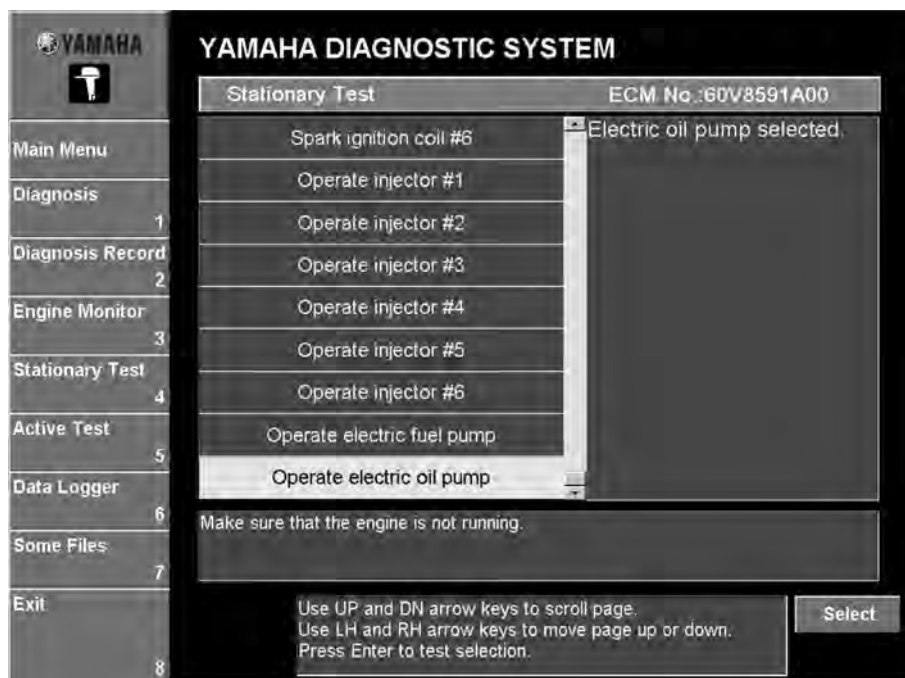

Fig. 79
1. Select the test to be performed, and then click the **Select** button or press the Enter key on your keyboard. (Fig. 79)